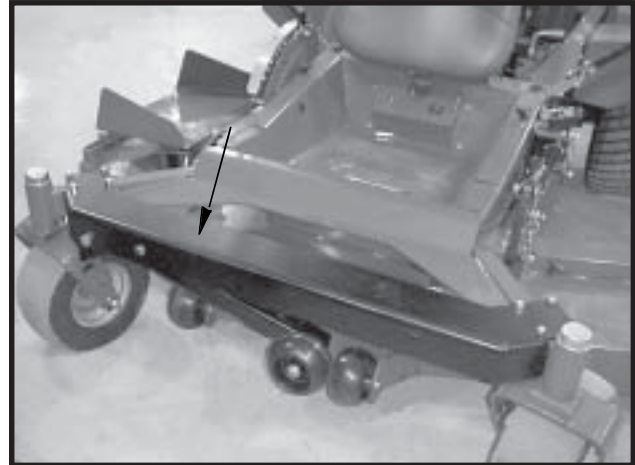

FIGURE 1
3. Mount the cross rail weldment on to the front frame tubes using the clamp plates and hardware. Make sure that the caster wheels can pivot 360 degrees freely. Adjust the cross rail weldment accordingly. See Figure 1.